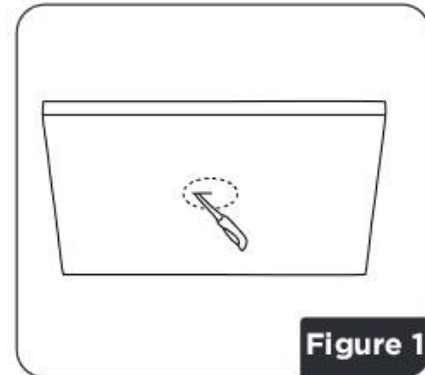

Figure 1
2. Drill a hole in the ceiling according to the trim size (see Trim Size section in these instructions). (Figure 1)